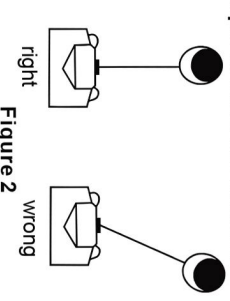

Figure 2
e. Avoid continuous pulls from extreme angles as this might cause the wire rope to gather on one end of the drum and damage the wire rope. **SEE FIGURE 2.**